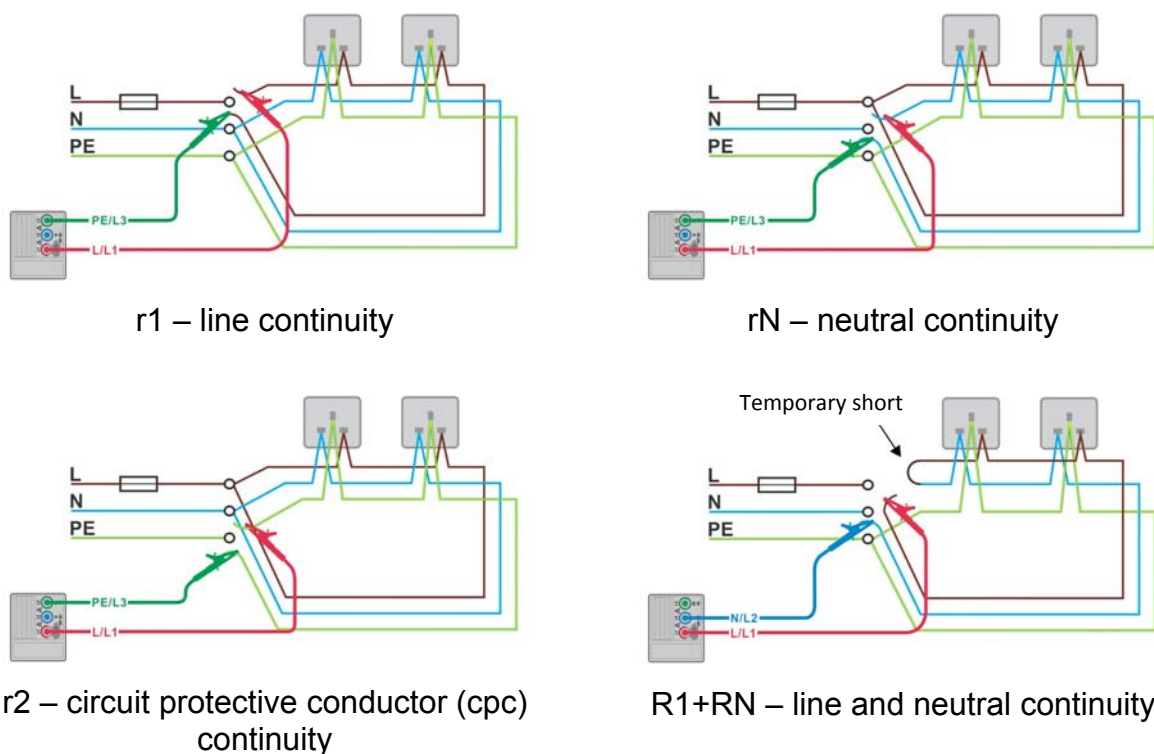
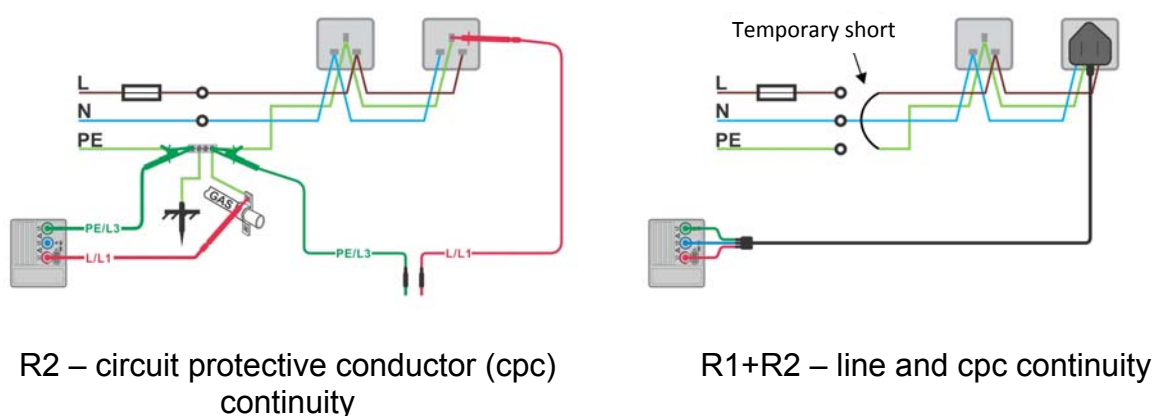

Figure 5.10: Connections for testing the $r1$, rN , $r2$ and $R1+RN$ sections of the wiring in ring circuits
Figure 5.11: Connections for testing the $R2$ and $R1+R2$ sections of the wiring in final circuits
- ❑ **Connect** the test leads to the installation wiring to be tested (see Figure 5.10 and Figure 5.11:).